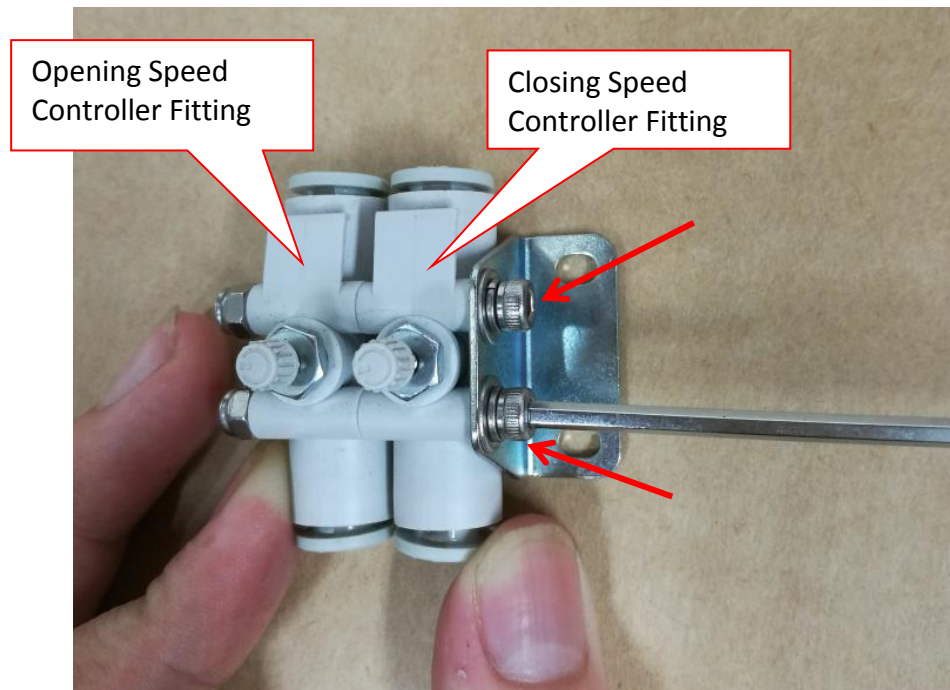

Figure 9 Speed Controller Fitting Assembly
18. Assemble Speed Controller Fitting & tighten-up 2 x Screws as shown in Figure 9